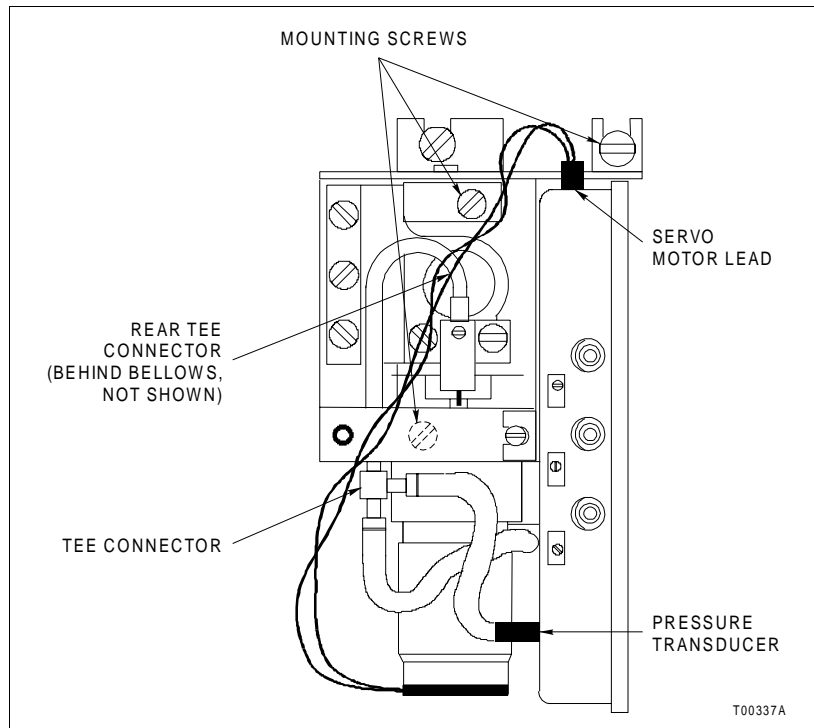

Figure 8-4. Servo and EMI/Electronics Assembly
5. Loosen the three screws (two Phillips head and one socket head) that secure the servo assembly to the positioner housing (Fig. 8-4) and partially remove the servo. If replacing only the motor control board, go to Step 10.
6. Remove the tubing (coming from the regulator) from the bottom of the rear tee connector on the servo assembly (Fig. 8-4).